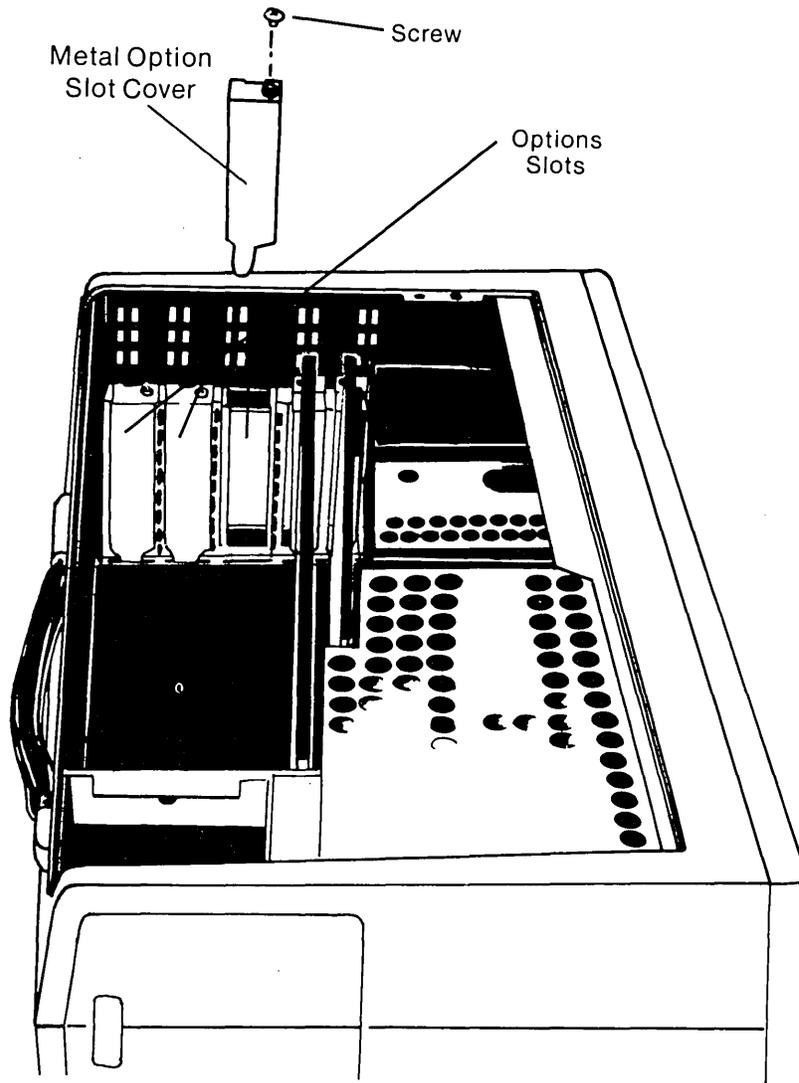

Figure 11-5. Metal Option Slot Cover.
4. You can place the option board in any of the three vacant card slots. Remove one of the metal option slot covers in the position where the asynchronous communications card will be installed. Remove the screw at the top of the cover and lift it out, as shown in Figure 11-5.